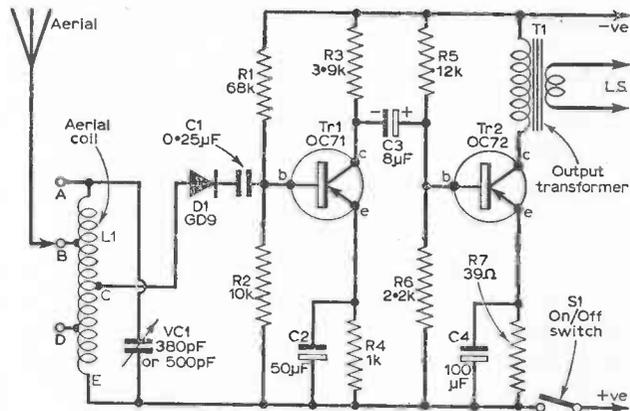

Fig. 7. The two-transistor circuit.
The circuit is shown in Fig. 7. A receiver of this kind is not intended for reception of distant or overseas stations, and it requires some kind of aerial and earth. For local station reception, for which it is intended, an indoor aerial should usually be sufficient. The aerial may be taken to tappings B and D, or to the beginning of the coil L1 (A) according to conditions.
The tuning coil is wound with 28 s.w.g. double cotton covered wire, on a ferrite slab about $\frac{1}{8}$ in. \times $\frac{5}{8}$ in. \times 3 in. Referring to Figs. 7 and 9, there are 20 turns from A to B, six turns from B to C, six turns from C to D, and 20 turns from D to E, making a total of 52 turns. All turns are wound in the same direction, closely side by side, and some modification to the number of turns, or gauge of wire, or the size of the slab, will not be very important.